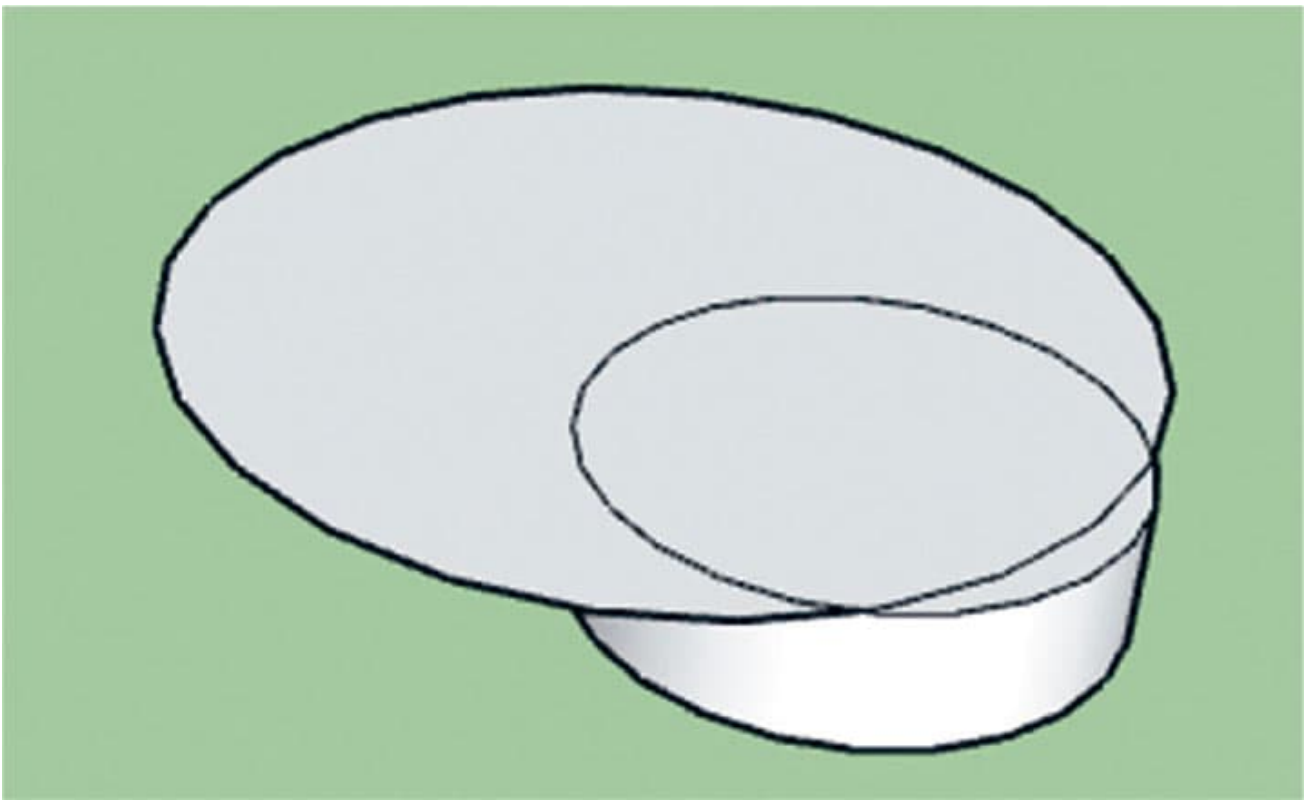

FIG. 2: *Make a cylinder and add a cutting circle.*
2. Designing the curved walls by creating a cylinder using the process in Lab 23 (shown here). Draw a circle with center on the circumference that almost covers the cylinder completely (fig. 2).